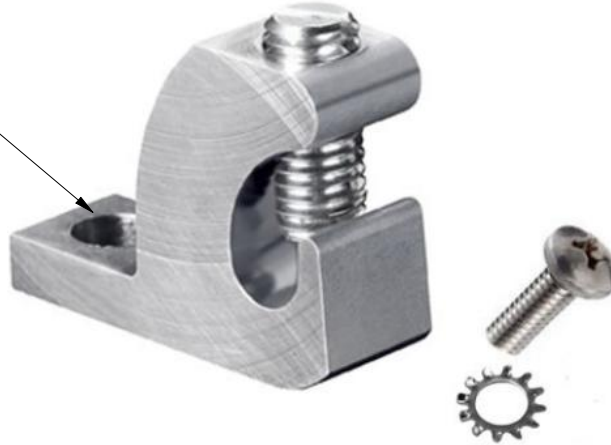

Figure 21: ILSCO GBL-4DBT GROUNDING LUG
3. Either Drill a hole or use one of the unused holes on the underside of the Chassis Stud and install an ILSCO GBL-4DBT or other UL and cETL listed lay-in grounding lug. **Refer to Figure 21 below.**